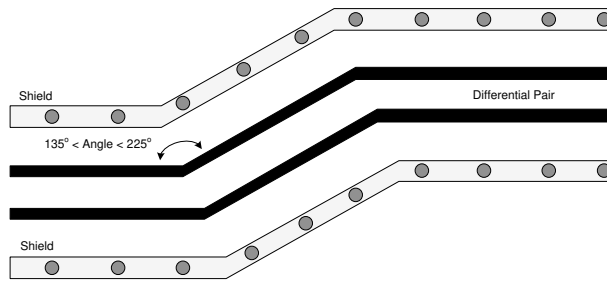

Figure 9-3. V-by-One Routing Example
- The bend angles associated with the differential signal pairs must be between 135° and 225° (see Figure 9-3).